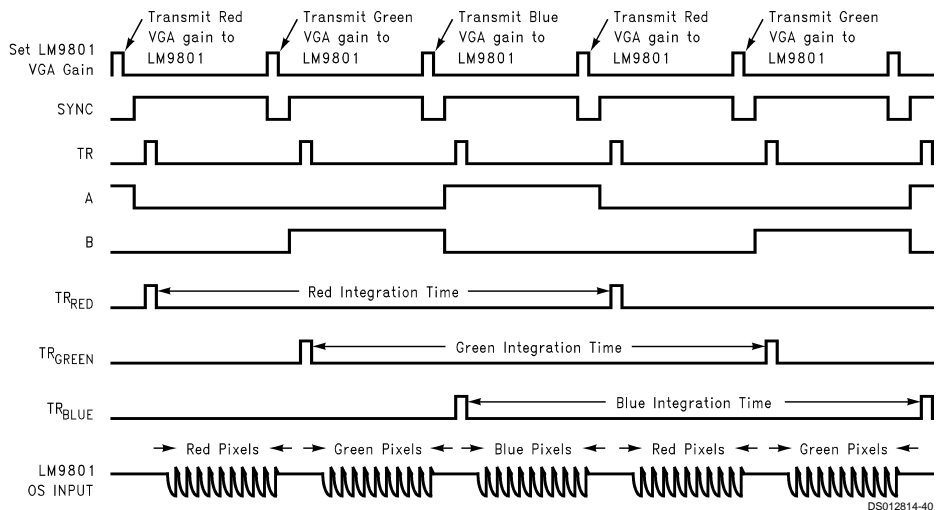

FIGURE 32. Parallel Output CCD Timing
To maximize the integration time for the Red, Green, and Blue photodiodes, the transfer (TR) pulses should be staggered as shown in Figure 32. This is done by a demultiplexer (Mux 2) between the TR output of the LM9801 and the transfer gate inputs of the CCD. If the CCD's transfer gate input capacitance is relatively low (see the CCD datasheet for this specification and the requirements for TR pulse rise and fall time), then the other half of the 74HC4052 may be used to switch the TR pulses as shown. If the TR gate input capacitance is so large that the minimum TR rise and fall times can not be met because of the 200Ω max on resistance of the 74HC4052's switches, then the 74HC4052 can not be used to multiplex the TR output and should be replaced with an active device such as the 74HC155 dual 2-to-4 demultiplexer.